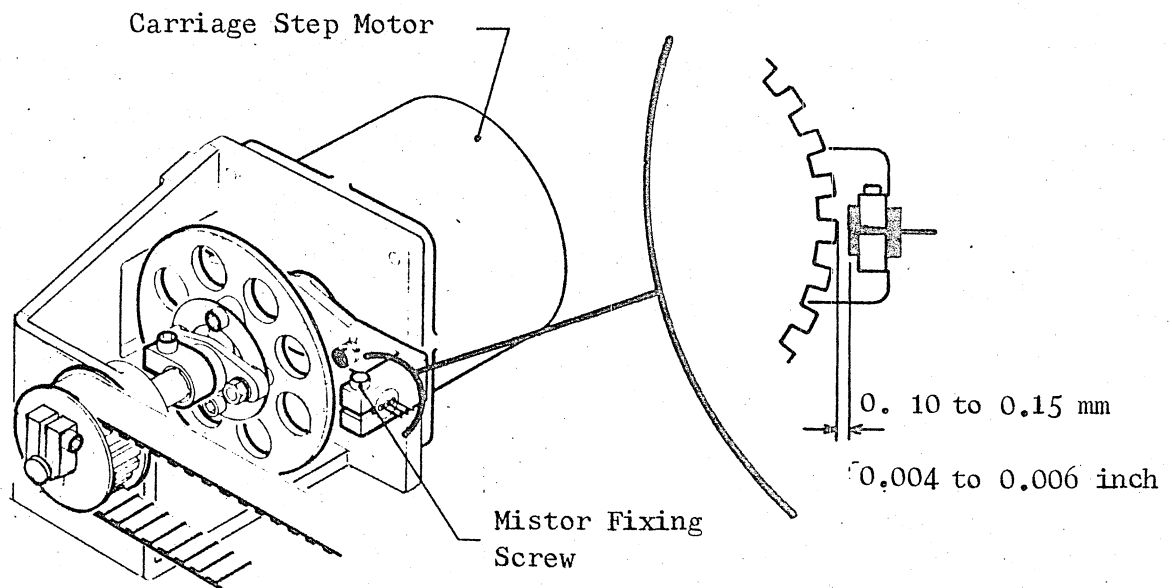

Fig. 8.1
- . Interpose the 0.10 mm (0.004 inch.) blade and tighten the screw previously loosened by pressing the mistor against the blade. Refer to fig. 8.1